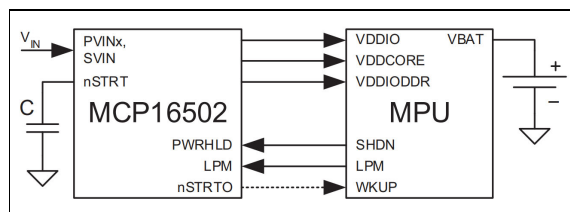

FIGURE 1: Application with a Backup Supply Block Diagram.
2. A low-to-high transition of the PWRHLD signal, regardless of the nSTRT event, when the PWRHLD pin is driven exclusively by the MPU SHDN pin. This is only possible in applications with backup supply (Figure 1). This mode is typically originated by an external wake-up event asserted by a peripheral device of the MPU Shutdown and Wake-up Controller (SHDWC), which is still powered in Backup mode.